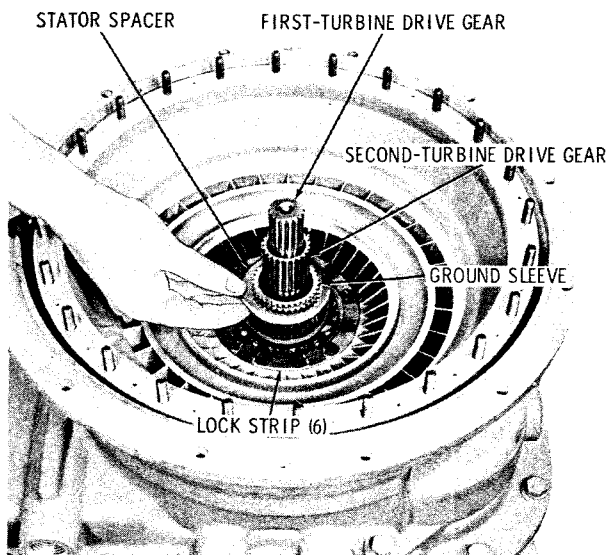

Fig. 5-11. Removing stator spacer
(3) Remove the stator spacer from the converter ground sleeve (fig. 5-11).